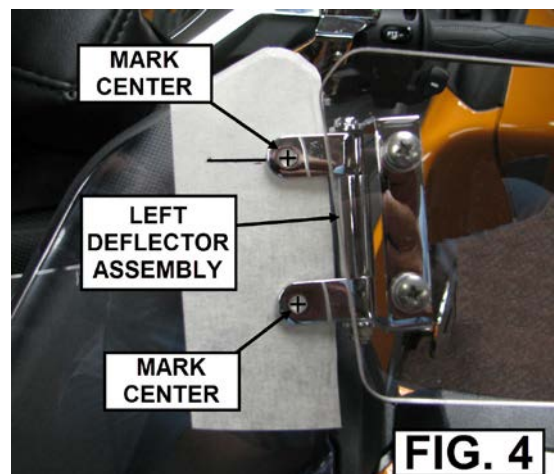

FIG. 4
- TAKE THE LEFT ASSEMBLY AND HOLD IT ON THE FRONT OF THE OEM WIND DEFLECTOR AS SHOWN IN FIG. 4. LINE UP THE CENTER OF THE TOP HOLE WITH THE LINE YOU MARKED IN STEP 5. SLIDE IT IN SO THAT THE TUBE SPACER IS TOUCHING THE OUTSIDE EDGE OF THE OEM WIND DEFLECTOR.
- USING A PENCIL OR PEN MARK THE CENTER OF EACH HOLE ON THE RT MOUNTS. SEE FIG. 4.